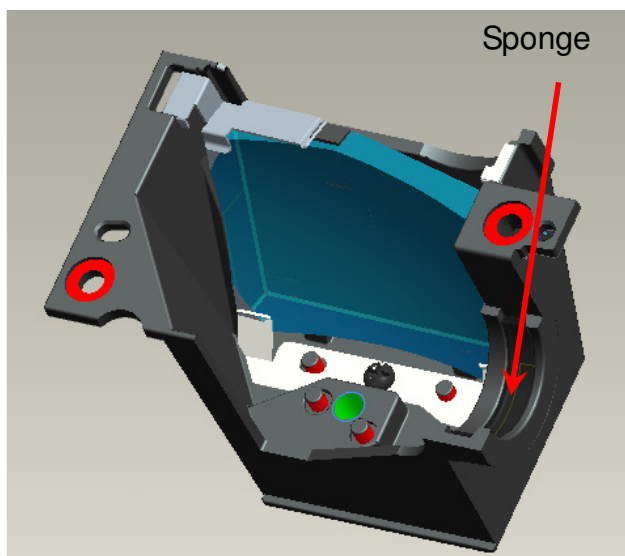

Fig. 3-6
- VI. Paste “Sponge tube AL” on cannellure of” HSG ILL” (Fig. 3-6).